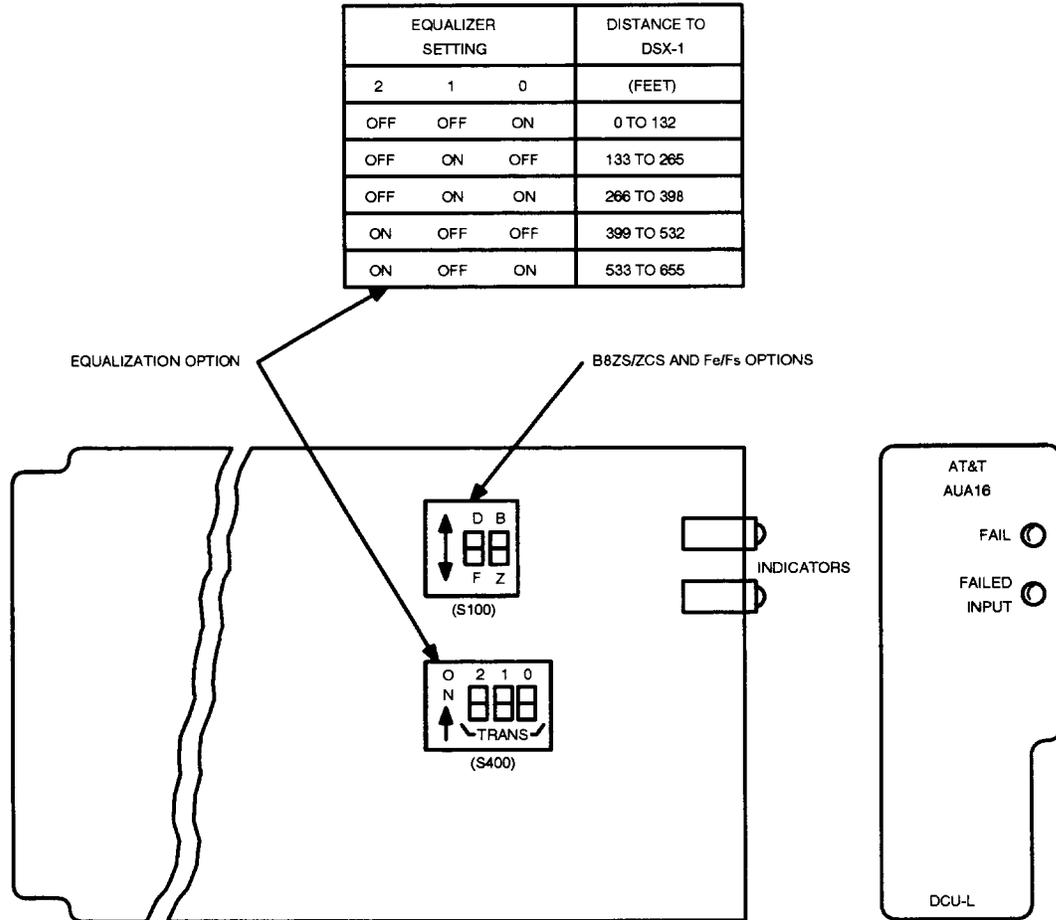

Figure 1 — AUA16 DCU-L Option Switches
3. On **DCU-L** option switch **S400** (FIG. 1), set switches **0**, **1**, and **2** to agree with distance to DSX (most likely **OFF, OFF, ON**).